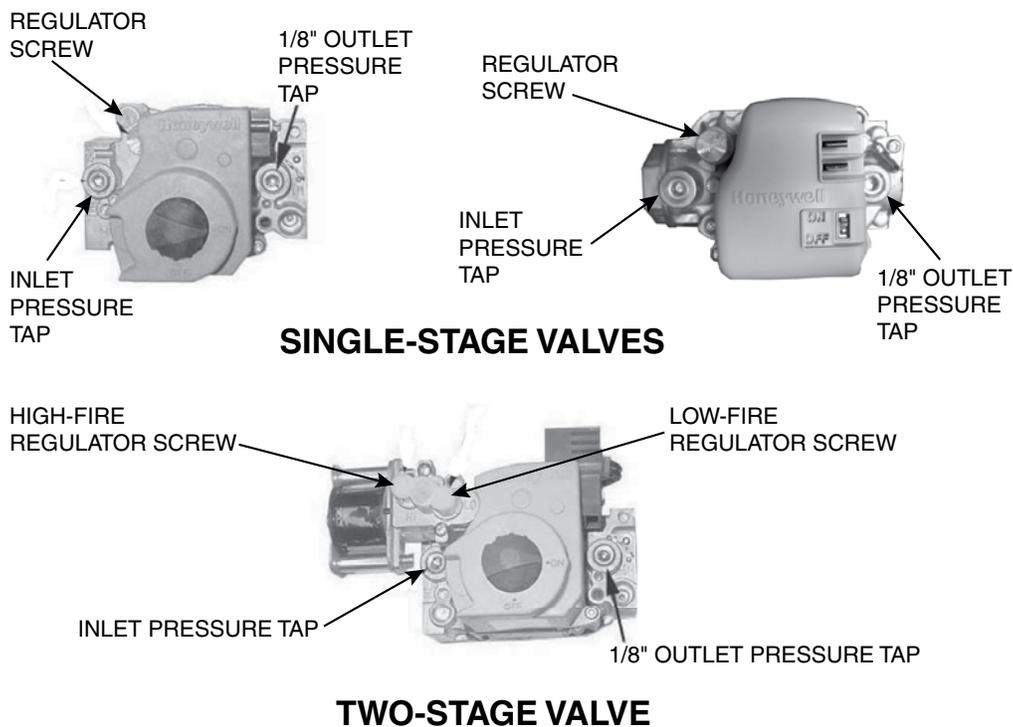

Figure 19. Manifold Pressure Adjustment
2. Connect manometer to 1/8-inch output pressure tap on valve (see Figure 19).
- If manometer reading does not indicate that valve outlet pressure is in accordance with Table 16, remove cap from regulator screw(s) (see Figure 19) and adjust pressure by turning regulator screw IN (clockwise) to increase pressure or OUT (counterclockwise) to decrease pressure.
4. Connect manometer to 1/8-inch output pressure tap on valve (see Figure 19).
- b. Remove cap from regulator screw (see Figure 19) and adjust pressure in accordance with Table 16 by turning regulator screw IN (clockwise) to increase pressure or OUT (counterclockwise) to decrease pressure.
- b. Remove cap from low-fire regulator screw (see Figure 19) and adjust pressure in accordance with Table 16 by turning regulator screw IN (clockwise) to increase pressure or OUT (counterclockwise) to decrease pressure.
10. Connect manometer to inlet pressure tap (see Figure 19). While heater is operating, measure inlet pressure, which should be between 5 and 13.5 IN WC for natural gas or between 11 and 13.5 IN WC for propane.